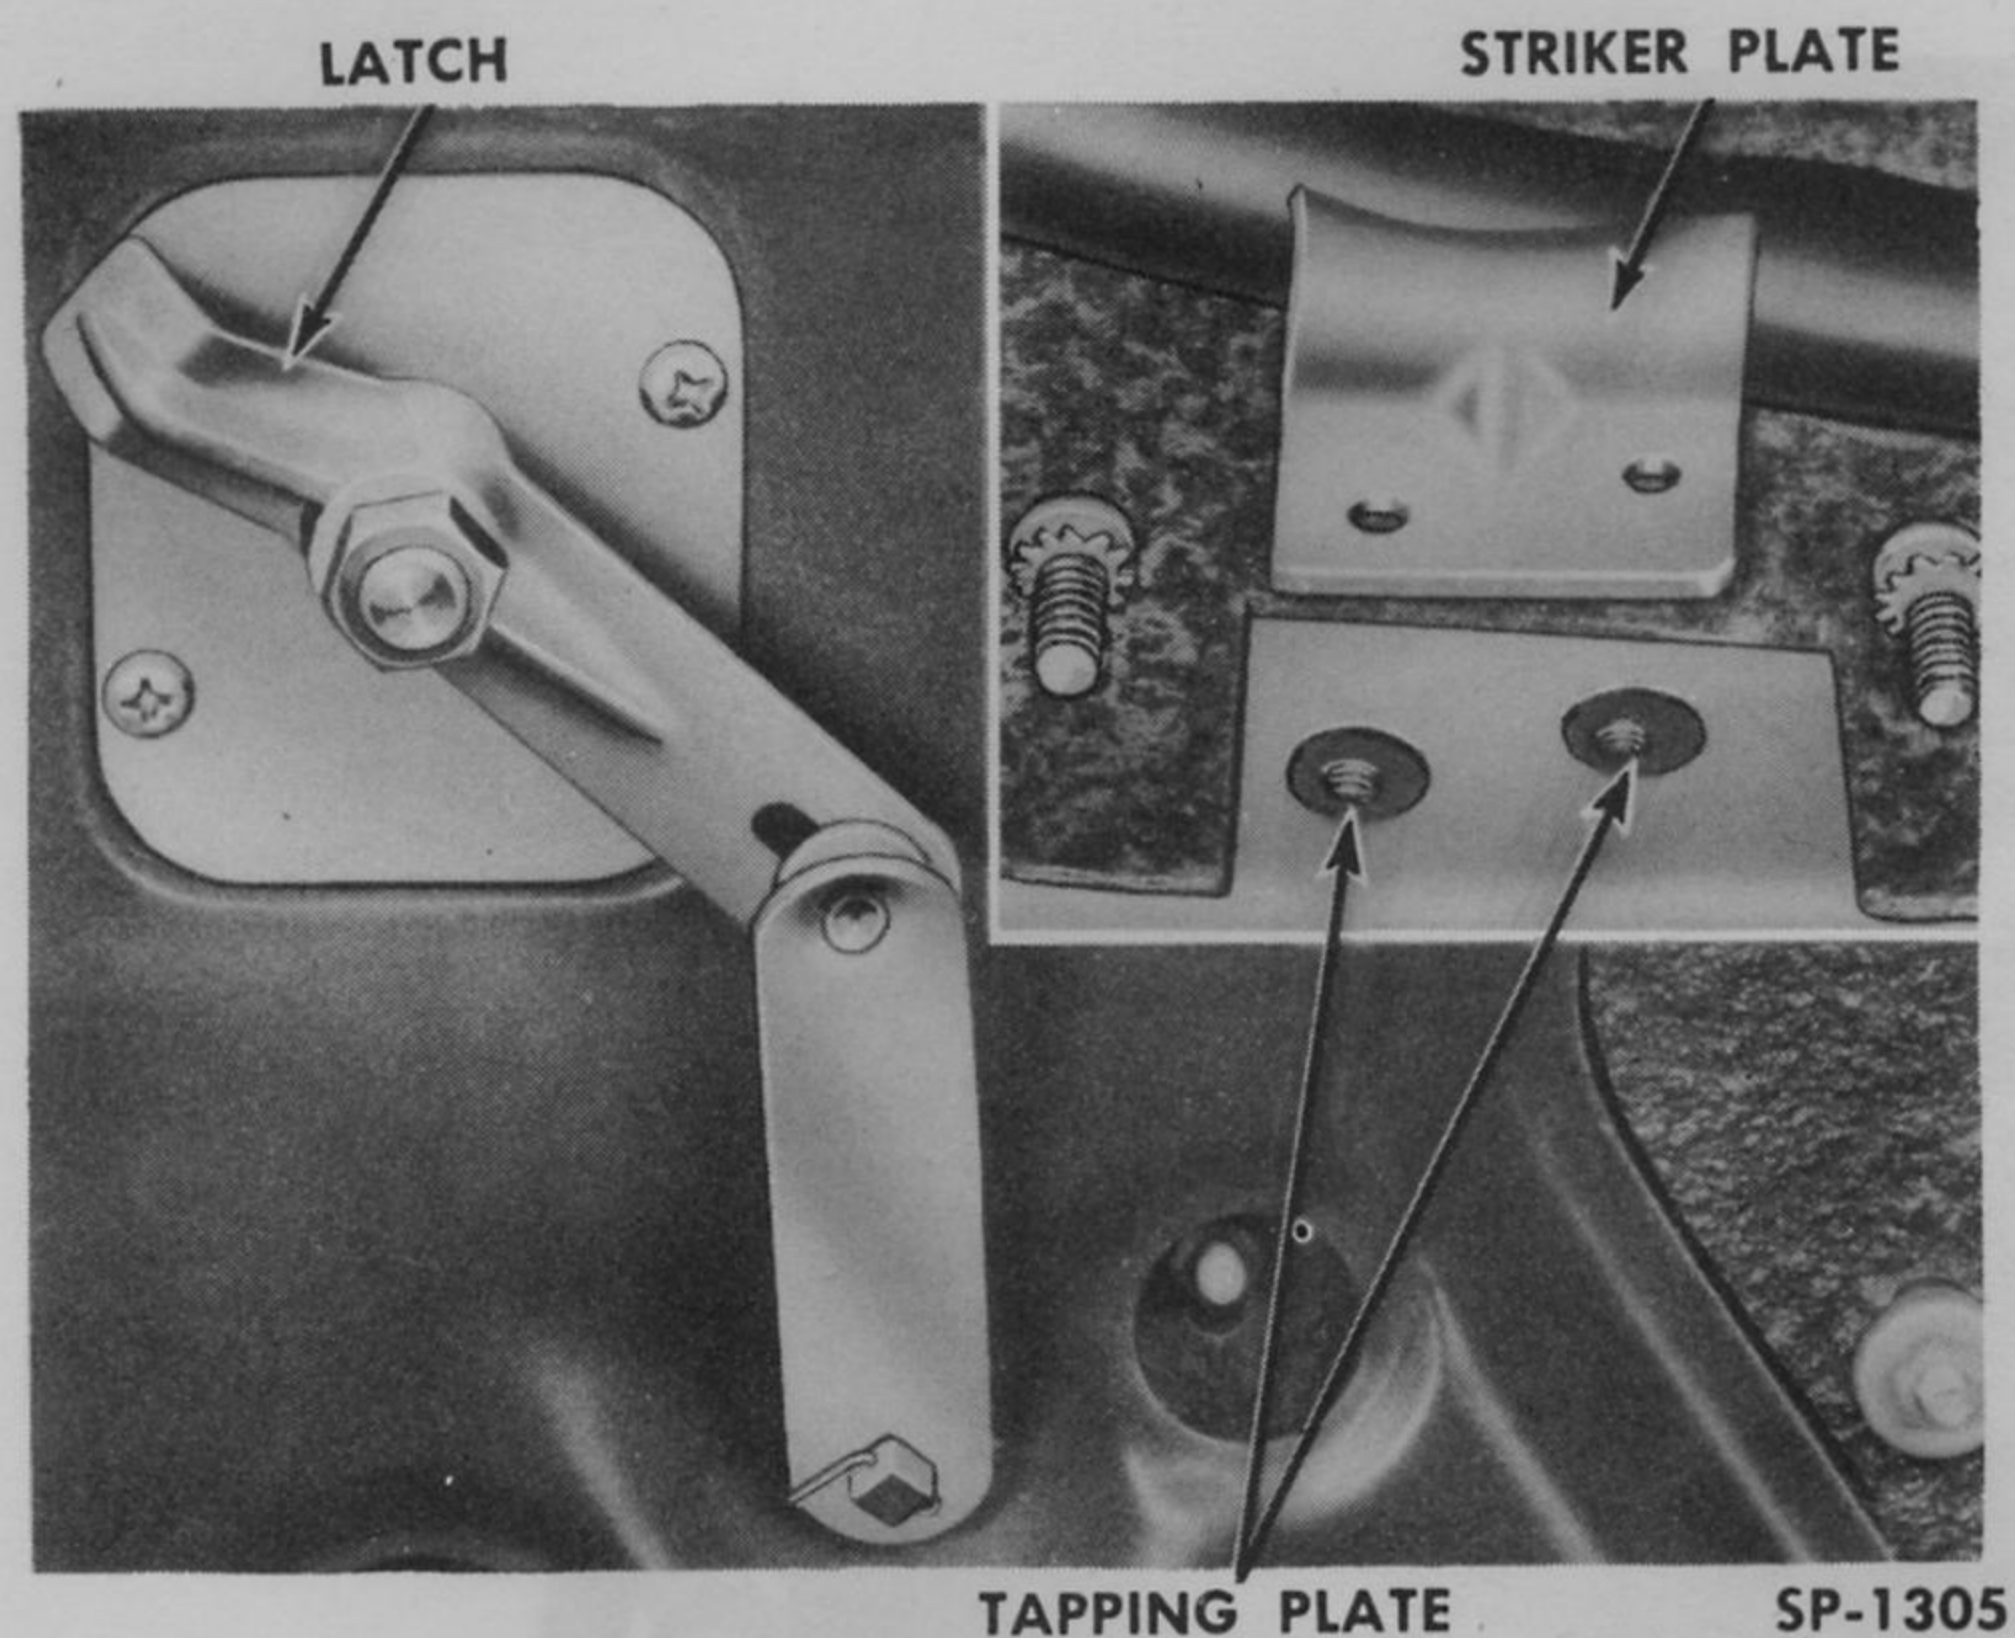

Fig. 362—Rear Compartment Lid Lock and Striker—Kaiser
**2. Lid Lock.** The lid lock handle and license lamp mounted on the deck lid are the swivel type having a link extending from the handle shaft to the latch. The latch assembly is mounted at the lower edge of the inner lid panel. The striker plate is mounted on the rear compartment floor sill. The locking mechanism may be replaced by removing the attaching bolts, nuts and washers as required (Fig. 362).